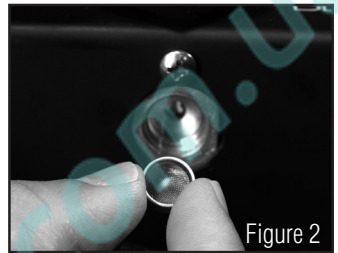

Figure 2
- Remove suction port filter (Figure 2).